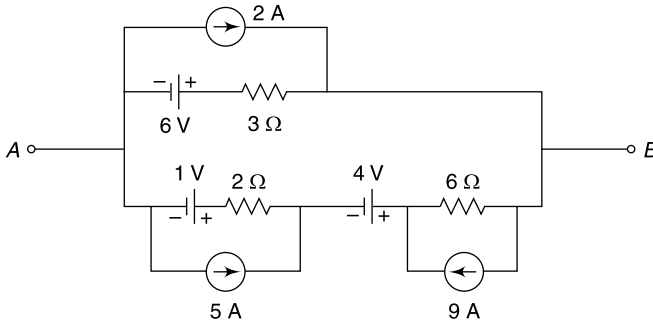

Fig. 4.190
29. Obtain Thevenin's equivalent with respect to terminals A and B of the network shown in Fig. 4.190. [Ans: $V_{Th} = 10.637 \text{ V}$, $R_{Th} = 2.182 \Omega$]